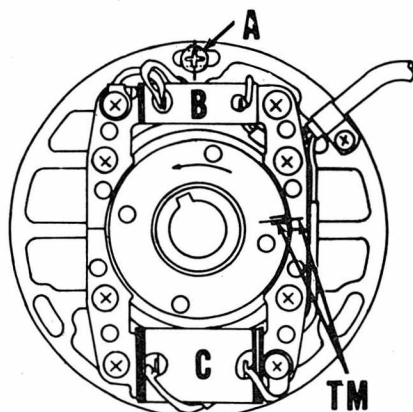

Fig. S13-2—Timing marks (TM) should align at 3000 RPM.
Ignition timing may be checked with a power timing light. Timing marks (TM—Fig. S13-2) should align at 3000 RPM. Timing should be correct if center of mounting screw (A) is aligned with stamped mark on stator.
Various components of the system may be inspected with an ohmmeter. Resistance of the exciter coil (C—Fig. S13-2) should be 315 ohms and is measured between the black/red wire and base plate. Standard resistance of the pulser coil (B) is 80 ohms, checked between the red/white wire and the base plate. Standard resistance of primary winding of ignition coil (measured between black/white and white/blue wire) is approximately 1.5 ohms. Resistance of secondary winding (spark plug lead to ground) is approximately 20,000 ohms.